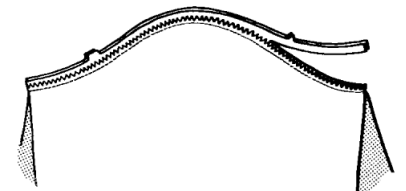

Figure 18
4. Finish seam allowances, treating the two seam allowances as one (Figure 18). Press toward the sleeve.